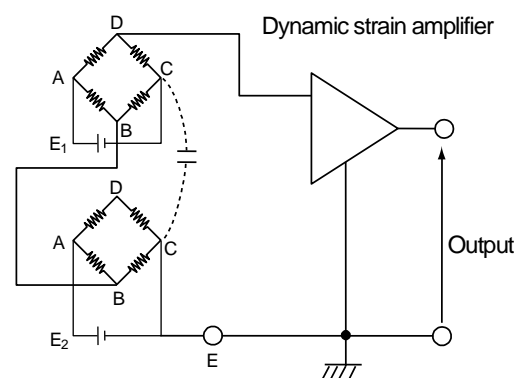

Fig. 4-14
(2) When calculating value of subtraction (Fig. 4-14)